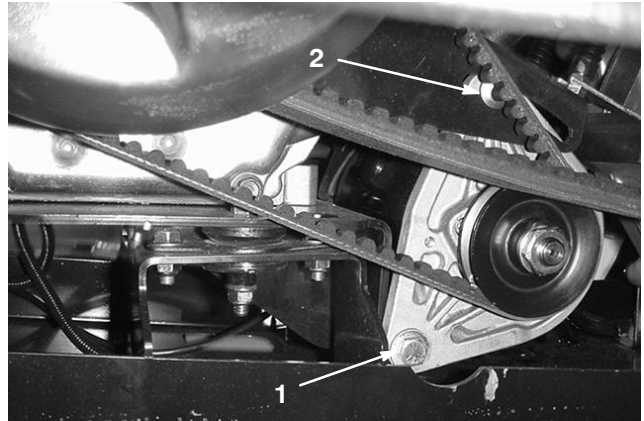

Figure 37
2. Loosen the starter generator pivot bolt (Fig. 37).
3. Wedge a pry bar between the engine mount and starter. Loosen the nut on the adjusting carriage bolt (Fig. 37).
5. Tighten the carriage bolt nut and remove the pry bar. Tighten the starter generator pivot bolt (Fig. 37).